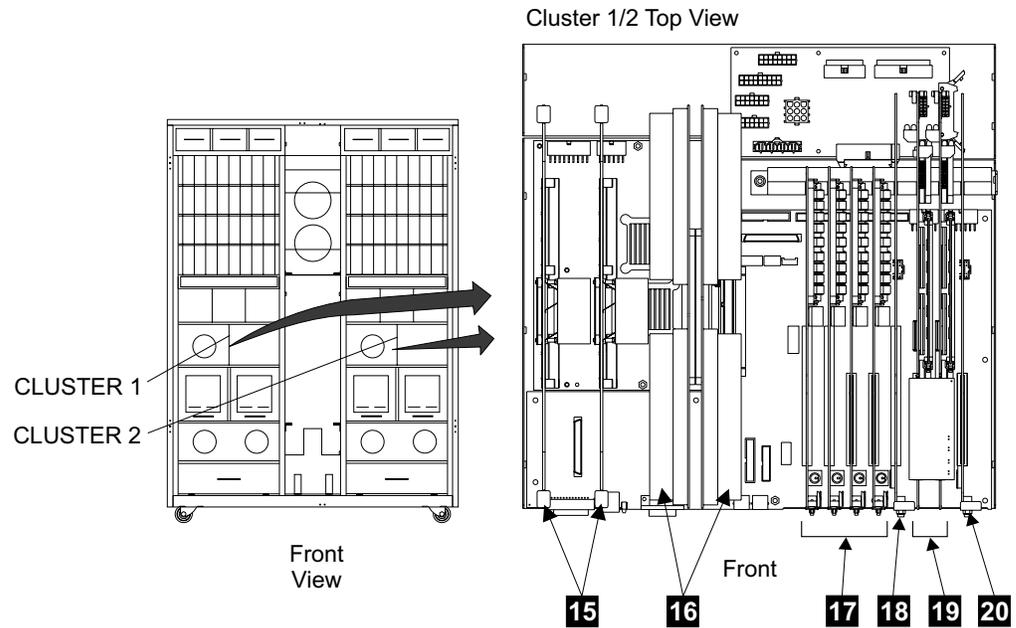

Figure 135. Cluster Bay Card Locations (S008779n)
- 255 MHz CPU cards **15**, in Figure 135 on page 127. disconnect cables from left side of cards first. See, “255 MHz CPU Card Removal and Replacement, Cluster Bay (F10/F20)” on page 136
- Memory cards, **16**, in Figure 135 on page 127. See, “Memory Card Removal and Replacement, Cluster Bay (F10/F20)” on page 138